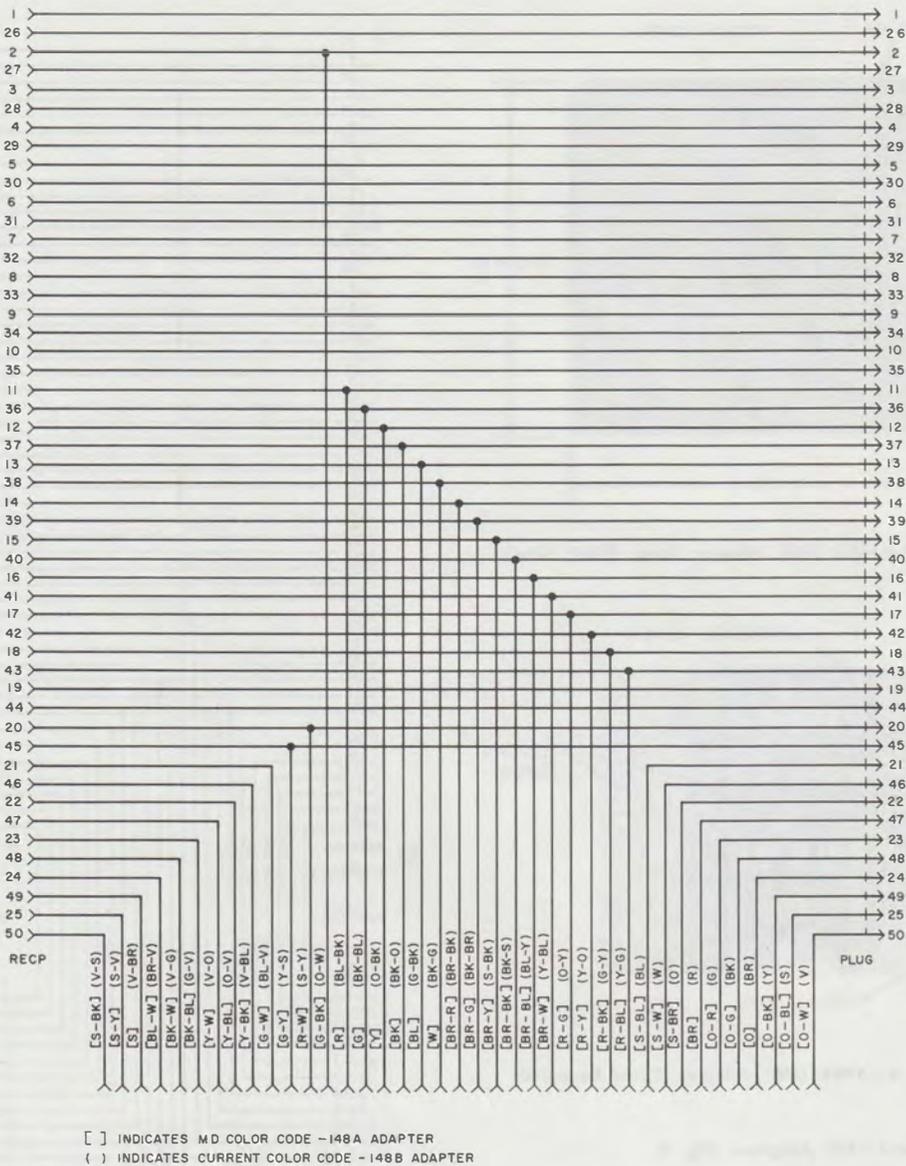

Fig. 2—148A (MD) or 148B Adapter, Schematic
- Pins 1 through 20 and 26 through 45 of the 50-contact plug are interwired by strapping to corresponding pins of the 50-contact receptacle through the Y arms of the cord (Fig. 2).